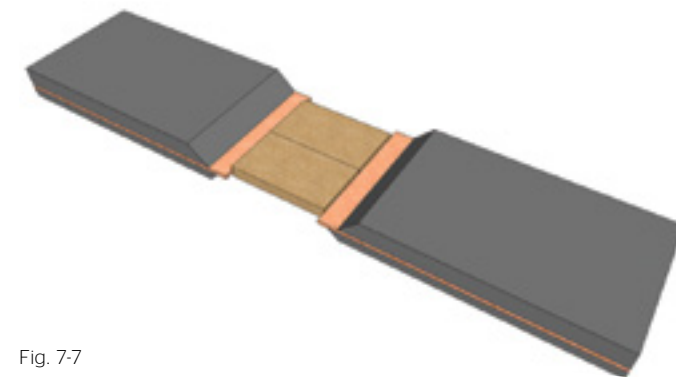

Fig. 7-7
40. Tightly wrap the breaker. Working from the outside edges, roll the breaker in place. Refer to Fig. 7-7.